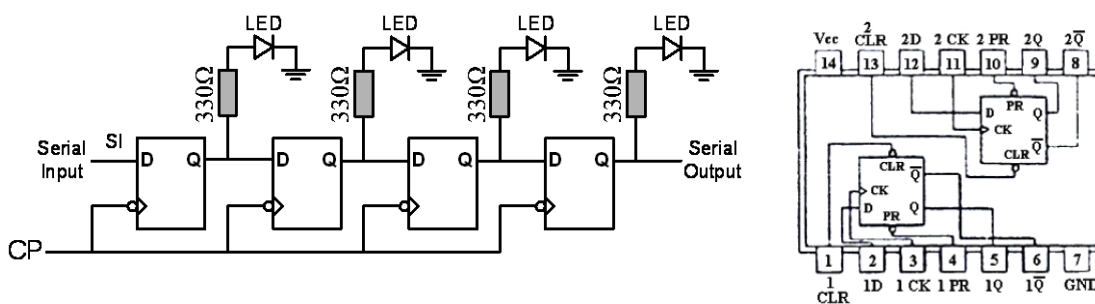

Figure 7-6. The schematic of a 4-bit shift register & the pin configuration of the 74LS74.
4. Construct the shift register given in Figure 7-6 by using two 74LS74 ICs.